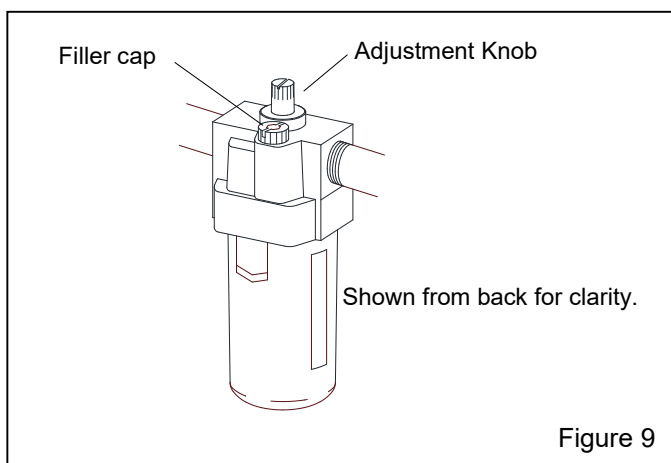

Figure 9
4.1 Water Pump Lubricator – Figure 9